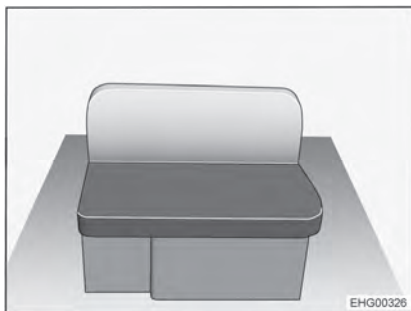

Fig. 19 Divan, on the right
- Remove the seat cushion and the back cushion from the divan (Fig. 19).